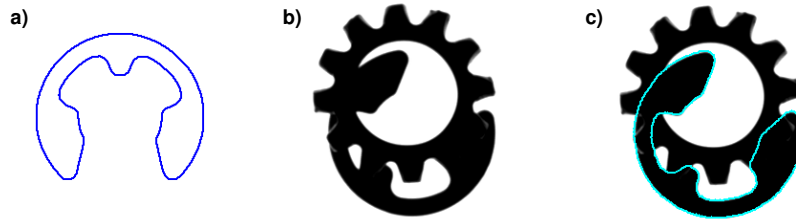

Figure 12: Searching for partly occluded objects: a) model of the security ring; b) search result for `MinScore` = 0.8; c) search result for `MinScore` = 0.7.
With the parameter `MinScore` you can specify how much of the object — more precisely: of the model — must be visible. A typical use of this mechanism is to allow a certain degree of occlusion as demonstrated in figure 12: The security ring is found if `MinScore` is set to 0.7.
- Parts of the object's contour are occluded, e.g., as in figure 12.